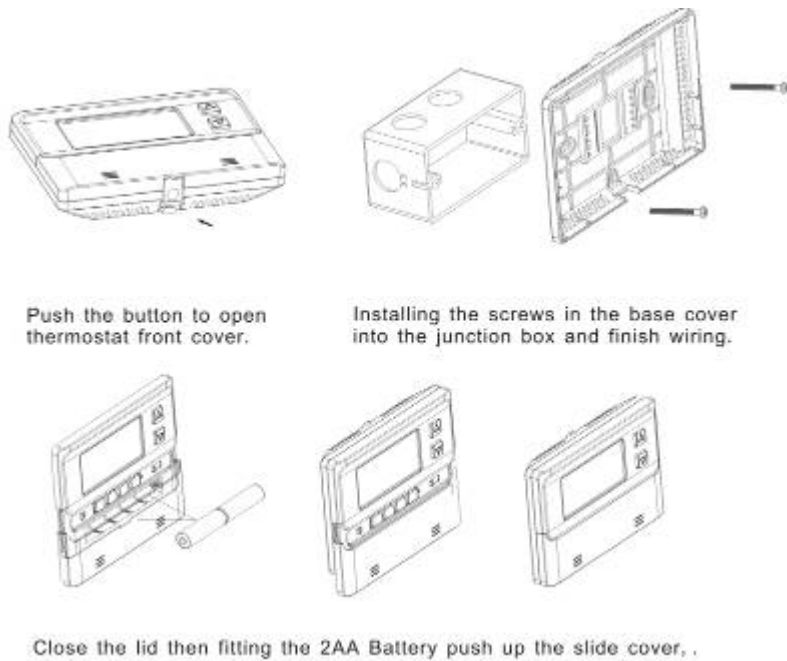

Figure 1
4. Gently pull the cover straight off the base. (See figure 1.)
8. Fasten the base loosely to the wall as shown in Figure 1, using two mounting screws. Place a level against the bottom of the base and adjust until level, then tighten the screws. (Leveling is for appearance only, and will not affect thermostat operation.)